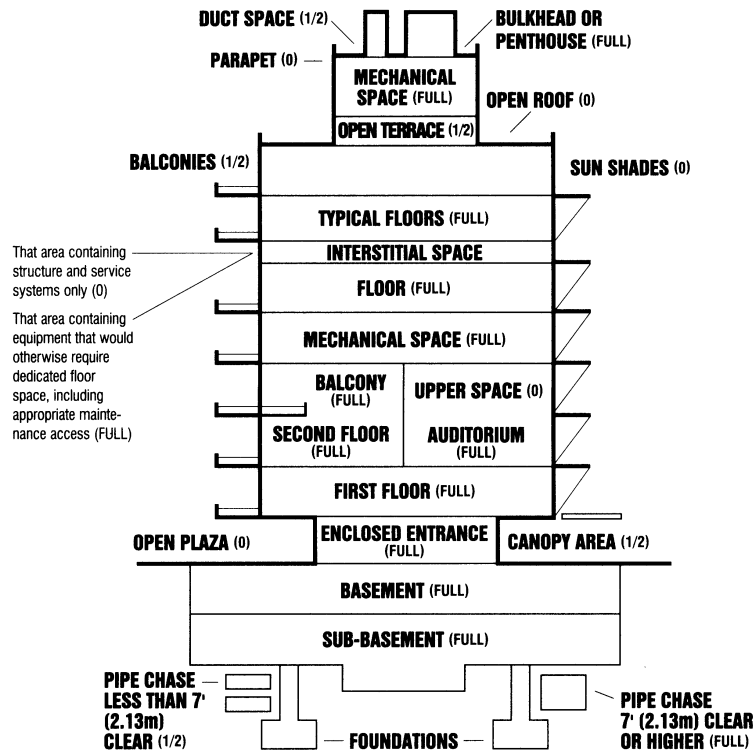

Figure 1: Architectural Area Calculation
- a. *Architectural Area or Gross Area* - The area of a building is the sum of the areas of the floors of the building, measured from the exterior faces of exterior walls or from the centerline of walls separating buildings. This area includes basements, mezzanines, intermediate floors and penthouses, provided that these areas have minimum of seven feet headroom height. Paved or finished covered areas shall be included at ½ the measured area. Balcony areas count fully but floor openings or upper spaces in double high rooms are not counted. See Figure 1 below for further definitions.